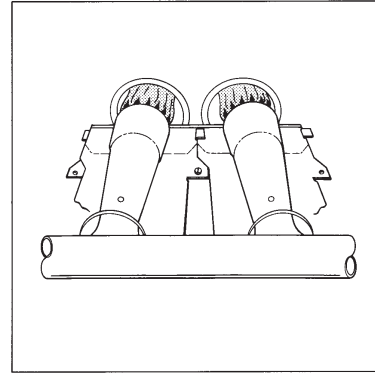

Fig. 4 - Burner Flame Adjustment
6. The burner flames are in good adjustment, See Fig. 4 (by comparison with pictorial sketches or drawings of the main burner flame).